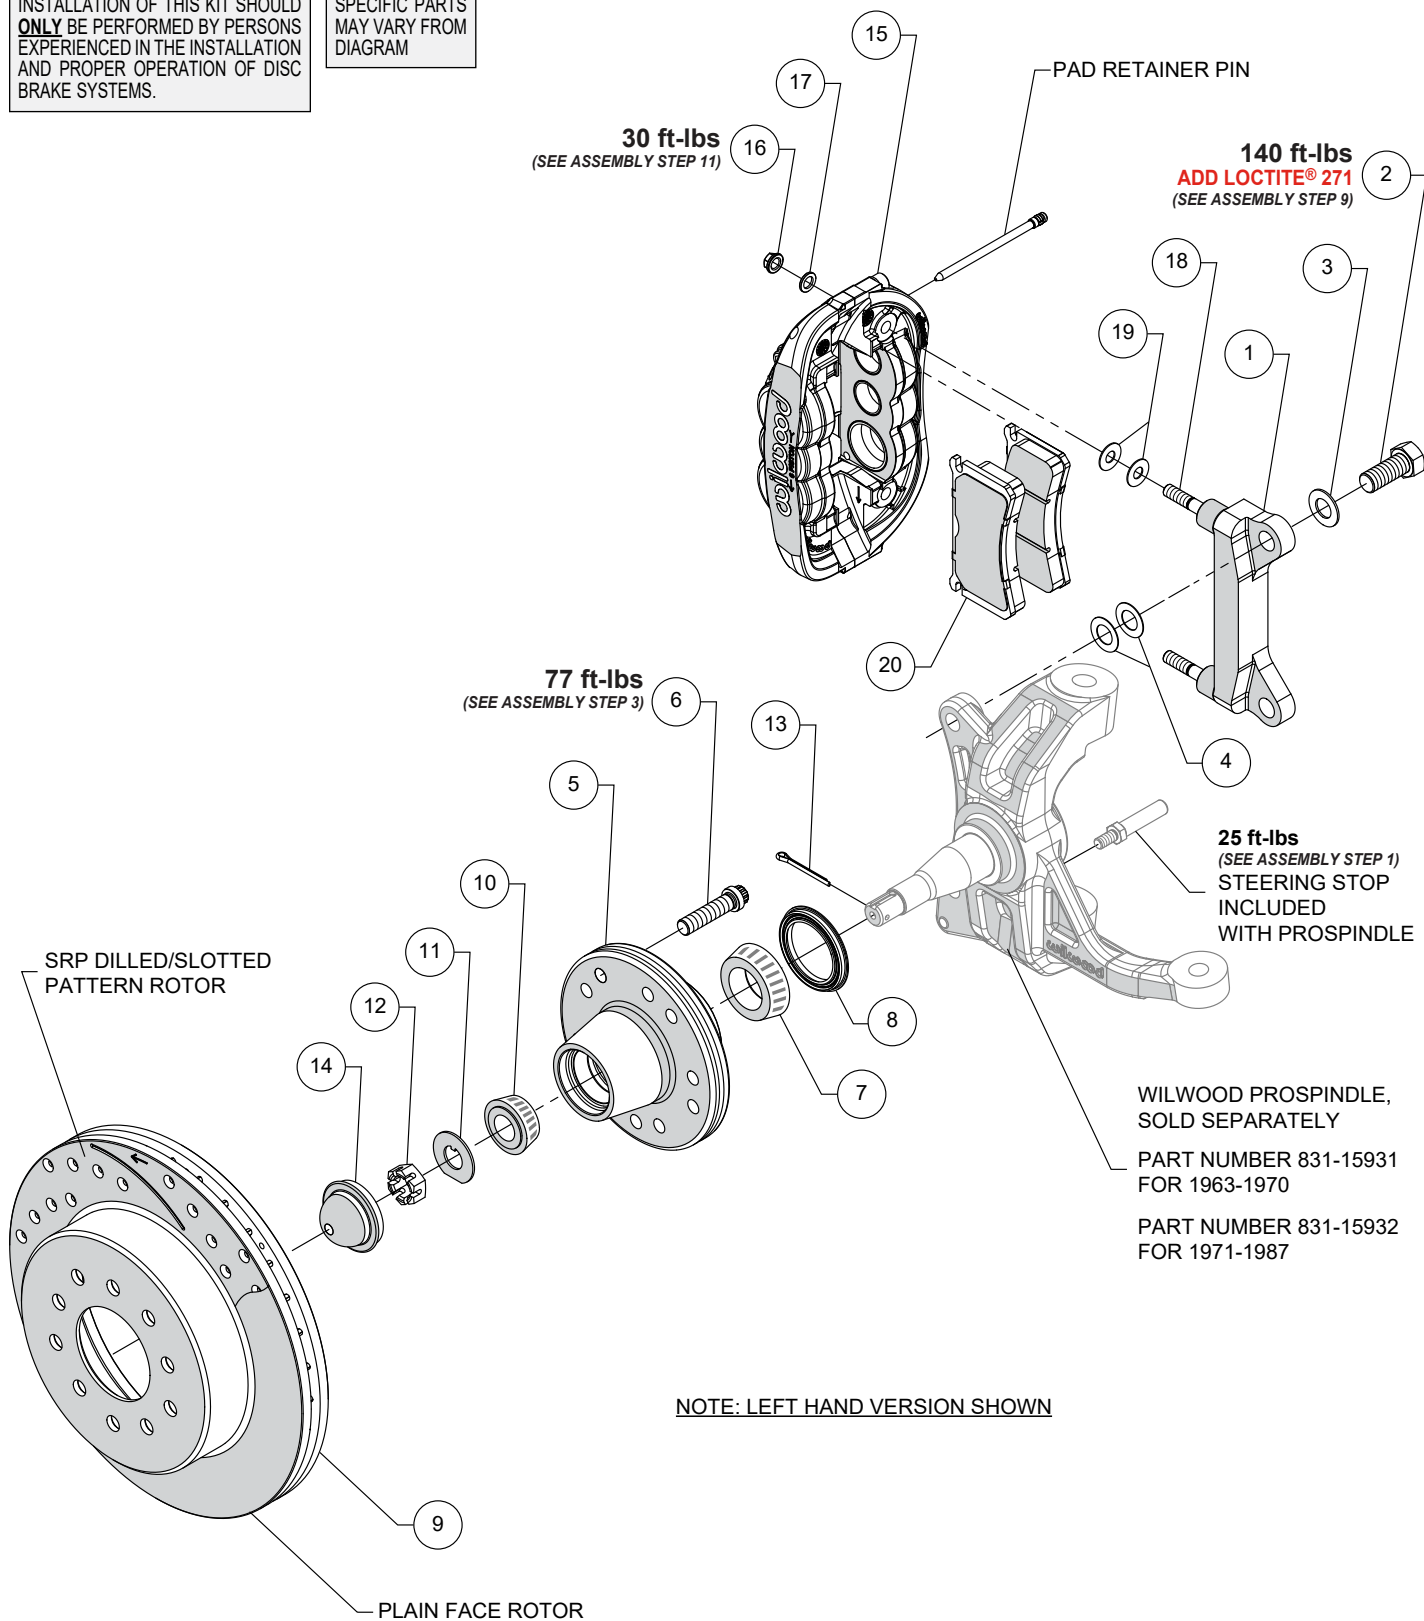

Figure 1. Typical Installation Configuration
NOTE: Numbers in parenthesis refer to the parts list and Figure 1 on the preceding pages.
STEP 1 Install the steering stop bolt (included with the ProSpindle) into the spindle as shown in Figure 1 and Photo 1. Torque to value shown in Figure 1.
STEP 2 The caliper mount bracket (1) should initially be installed with clean, dry threads on the mounting bolts. Orient the bracket, as shown in Figure 1 and Photo 2, and install using bolts (2) and washers (3). Initially place two .024" thick shim (4) on each bolt between the bracket and spindle, Figure 1. Temporarily tighten the mounting bolts. **NOTE:** The bracket must fit squarely against the mount bosses on the spindle. Inspect for interference from casting irregularities, machining ridges, burrs, etc. Later, after the caliper alignment has been checked, the mount bolts will be secured using red Loctite® 271.
STEP 3 Install wheel studs (6) into the hub (5), Photo 3. Torque to value shown in figure 1. **NOTE:** There are two five lug patterns in the hub (5 x 4.75 and 5 x 5.00). Ensure the correct hub stud pattern is being used to fit the wheel application.
STEP 4 Pack the large inner bearing cone (7) with high temperature disc brake bearing grease (available from your local auto parts store) and install into the backside of the hub (5), Photo 4.
STEP 5 Install the grease seal (8) by pressing into the backside of the hub (5), flush with the end of the hub, Photo 5.
STEP 6 Pack the small outer bearing cone (10) with high temperature disc brake bearing grease and install into hub (5). Slide the hub assembly onto the spindle. Secure using spindle washer (11) and spindle nut (12), Photo 6. Adjust bearings per OEM specifications. Install a new cotter pin (13).
STEP 7 Press the dust cap (14) into the hub (5). **NOTE:** Do not hammer center of cap. Install using outer flange only.
STEP 8 Slide the hat/rotor (9) onto the hub (5), Photo 7. **NOTE:** The hat must fit flush against the hub face or excessive rotor run out may result. Install three lug nuts (finger tight) to keep the hat/rotor in place while continuing with the installation.
below. Initially place two .035" thick shims (19) on each stud (18) between the caliper and the bracket, as shown in Figure 1 and Photo 8. Mount the caliper (15) onto the bracket (1) using lock nuts (16) and washers (17), Figure 1. Temporarily tighten the lock nuts. Ensure that the caliper is mounted so that the largest pistons are at the rotor exit end of the caliper, in relation to the direction of rotor rotation. View the rotor through the top opening of the caliper.
The rotor should be centered in the caliper, Photo 9. If not, adjust by adding or subtracting shims (4) between the bracket and the spindle. Always use the same amount of shims on each of the two mounting bolts. Once the caliper alignment is correct, remove the bracket mounting bolts one at a time, apply red *Loctite*® 271 to the threads, and torque to value shown in Figure 1.
STEP 10 Remove the caliper, then remove the two pad retaining pins from the caliper. Insert the brake pads (20) into the caliper from the bottom, with the friction material facing the rotor, as shown in Photo 10. Secure the brake pads in place with the pad retaining pins, Figure 1. **CAUTION:** *Ensure pad retaining pins are completely engaged into caliper.* It is recommended to use a small flat punch and hammer to tap the pins in until they are fully seated.
STEP 11 Reinstall the caliper and temporarily tighten the lock nuts. Check that the top of the brake pad is flush with the outside diameter of the rotor, Photo 11. If not, adjust by adding or subtracting shims (19) between the caliper and the bracket. After the caliper pad height is set, torque the caliper lock nuts (16) to value shown in Figure 1.